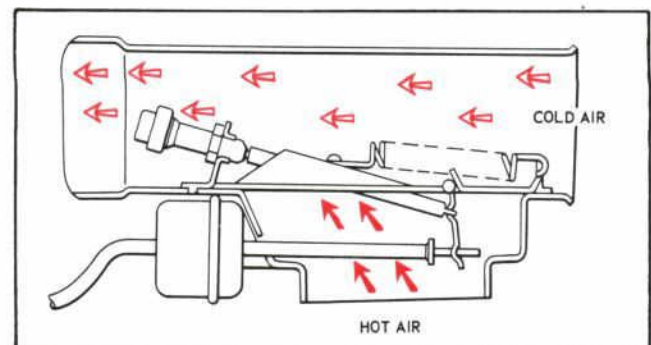

Fig. 3—Duct and Valve Assembly (Heat off Position)
6. Increase the water temperature to 135°F., allow 5 minutes to stabilize temperature, and observe the valve plate position. The correct position should be in the "heat off" or down position (See Fig. 3). If the valve plate does not meet the requirements as outlined in Steps 5 and 6 and no interference is observed of the plate and duct, the duct and valve assembly should be replaced.